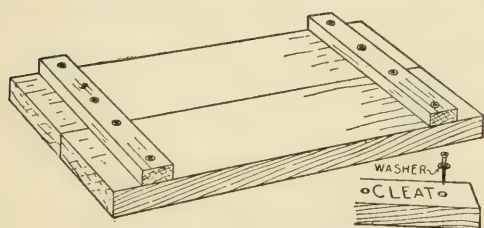
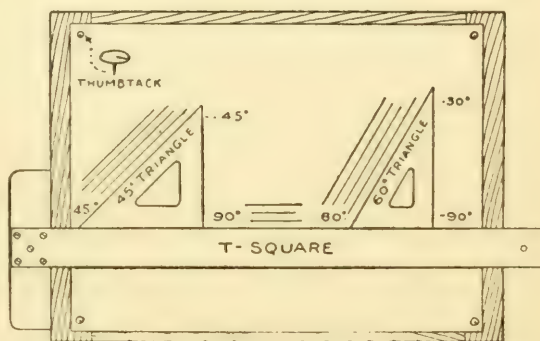

FIG. 85. — The Proper Way to cleat Boards.
FIG. 93. — A Student's Drawing-board (size 16" × 22") and T-square and Triangles.
the fastenings and possibly splits from end to end. Figure 85 shows how the movement may be taken care of by attaching cleats to the work. These cleats are held in place with
**A Drawing-board** may be made by cleating together several boards as described on page 70 and illustrated in Fig. 85, but you can buy one so cheaply that it hardly pays to try to make one. The board must be absolutely true upon the left-hand edge, and the wood must be well-seasoned and free from *winding*, *knots* and other defects, which points are taken care of in the boards you buy. A good size for small drawings is a student's board, size 16 inches by 22 inches (Fig. 93). The board may be placed upon your desk while you work, or you may make
**60-degree Triangle** for drawing oblique lines at angles of 60 and 30 degrees (Fig. 93). With the addition of a *ruler*, a couple of *pencils*, an *eraser*, and
**Thumb-tacks**, the best form of which is shown in Fig. 93.